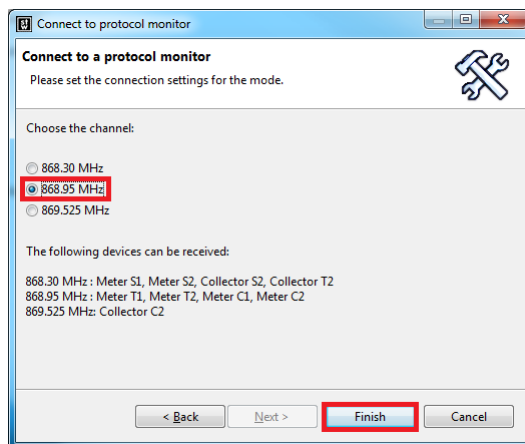

Figure 53: Select the protocol monitor device
(5) Select the mode and press 'Finish' as shown in figure 53.